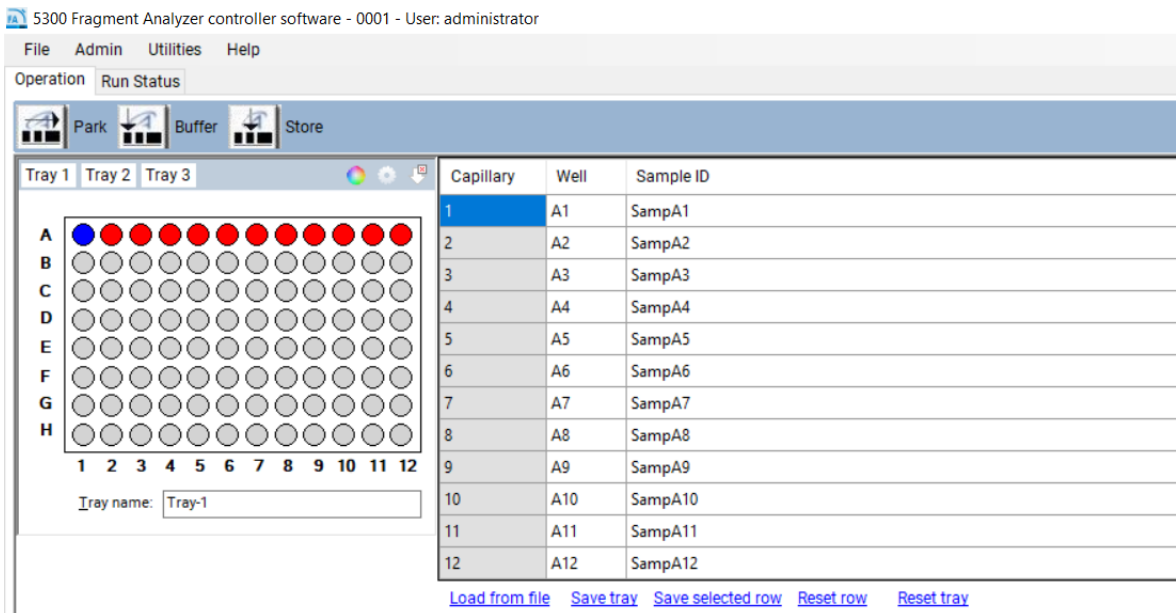

Figure 86 Adding samples names manually
- 3 Select the **Save tray** or **Save selected row** to save the file as a .txt or .csv (Figure 86).